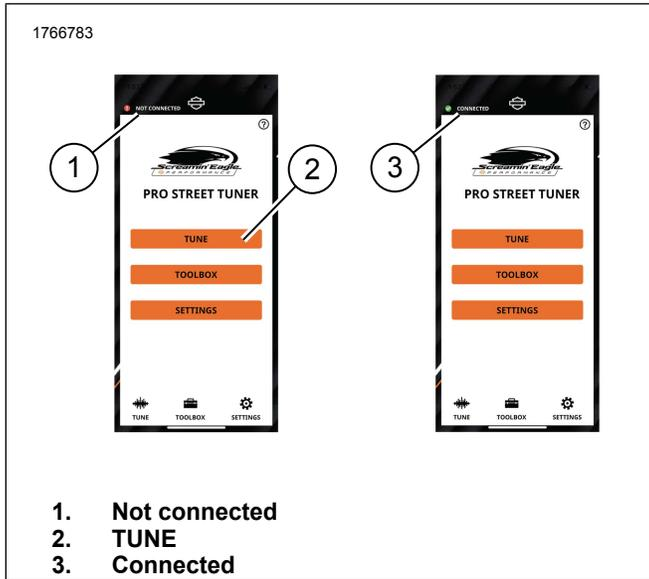

Figure 1. BCI Screen
- d. See Figure 1. Select **TUNE** (2).
- g. See Figure 1. Once connected, screen will display green connected (3).